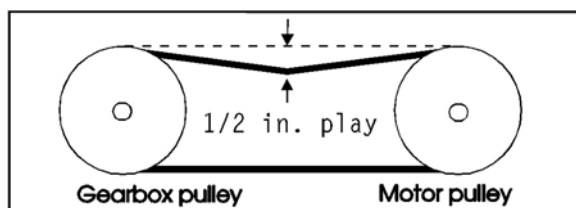

Figure 15: Setting correct play in drive belt
6. Turn the adjustment screw clockwise to tension the belt until there is 1/2 inch of play in the belt as shown in *Figure 15*.